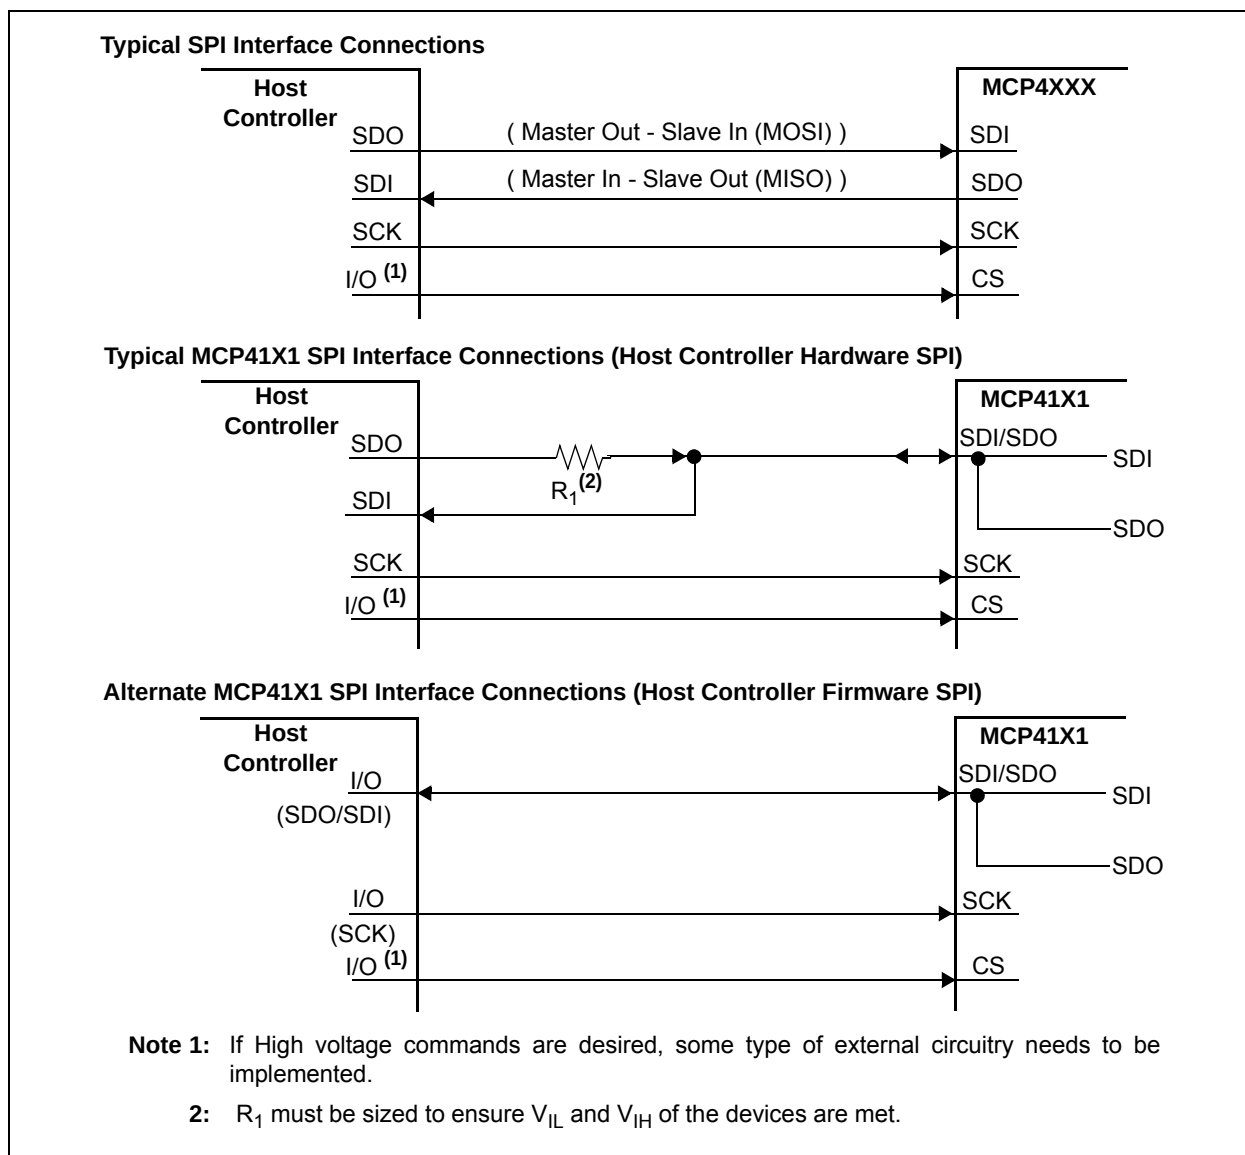

**FIGURE 6-1:** Typical SPI Interface Block Diagram.
Typical SPI Interfaces are shown in Figure 6-1. In the SPI interface, The Master's Output pin is connected to the Slave's Input pin and the Master's Input pin is connected to the Slave's Output pin.
**Note:** Care must be take to ensure that a Drive conflict does not exist between the Host Controllers SDO pin (or software SDI/SDO pin) and the MCP41x1 SDI/SDO pin (see Figure 6-1).